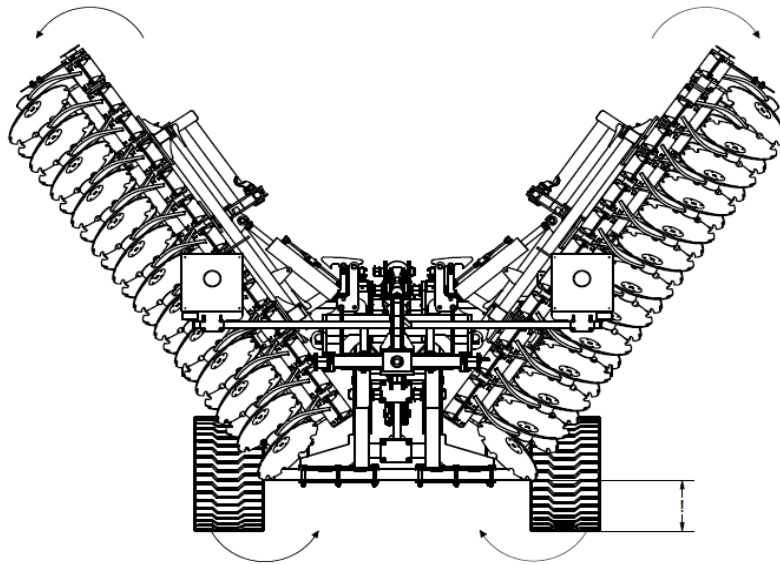

Figure 12 Machine opening sequence: opening the machine with special attention to the height of the arm ends from the ground.
4. When opening the machine's wing arms, ensure that the ends of the arms are at the correct height, preventing them from snagging on the ground (fig. 12).